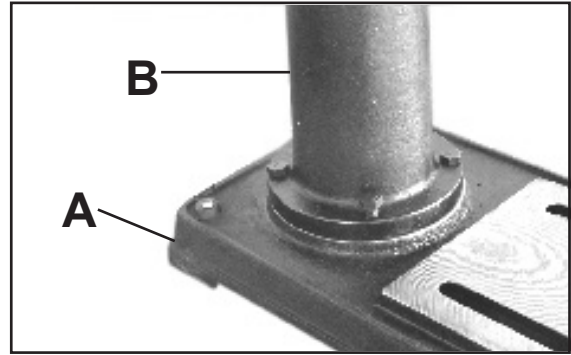

Figure 1
1. Place the base (A-Fig. 1) on a level floor where the machine will be used.
2. Attach the column (B-Fig.1) to the base (A-Fig. 1) using four M8x20 hex bolts. Tighten all four bolts with a 16mm or adjustable wrench.